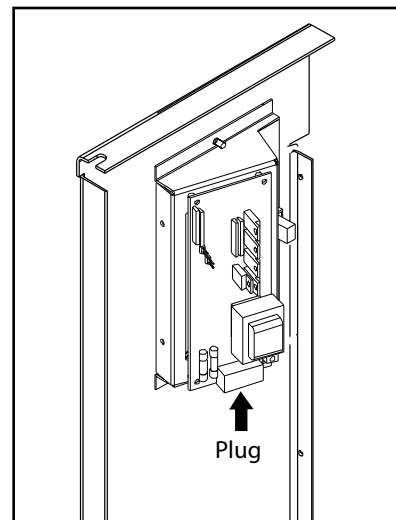

Figure 28: Control Panel Back
After the surround has been assembled and is ready to be installed on the unit, plug the wiring harness into the control panel (see Figure 28).
4. Plug the wiring harness into the control panel (see Figure 28).